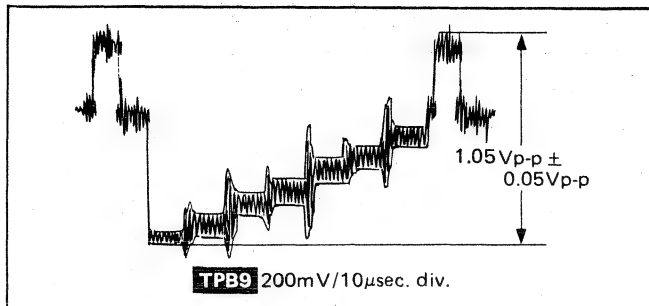

Fig. 5
4. Adjust R324 (Y-Level) so that the **TPB9** becomes $1.05V_{p-p} \pm 0.05V_{p-p}$ as shown in Fig. 5.